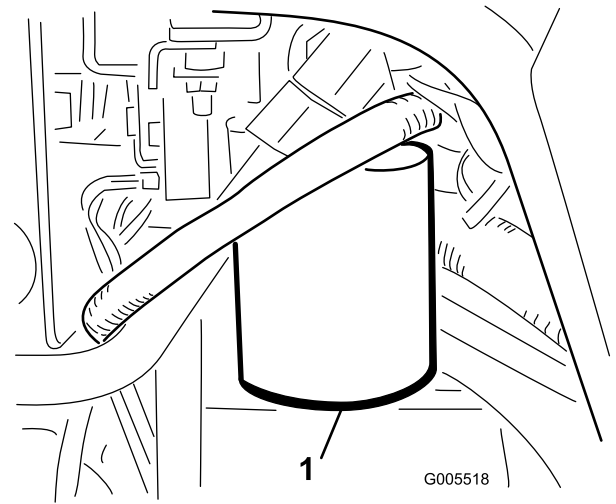

Figure 49
1. Clean the area around the filter mounting area (Figure 49). Place a drain pan under the filter and remove the filter.